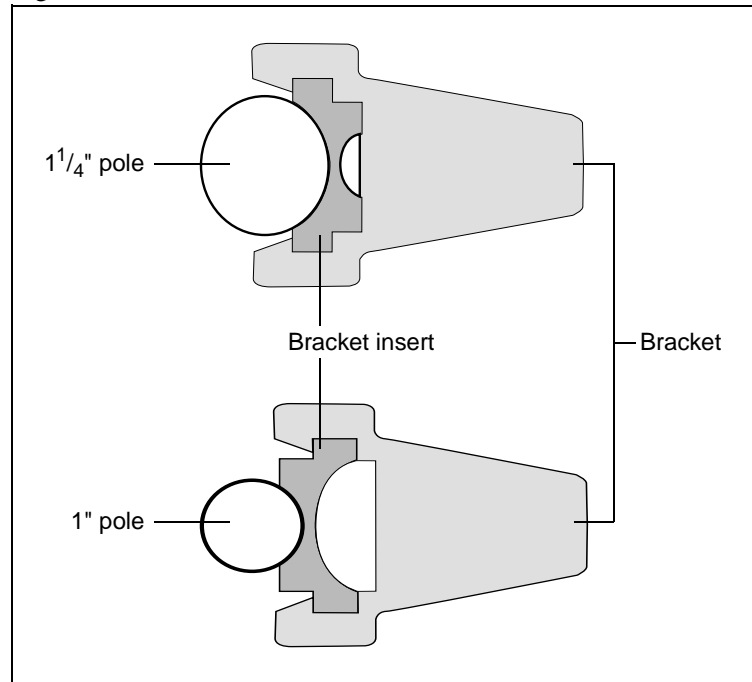

Figure 2.8 Receiver bracket insert
*Note* – If you are using a 1" diameter pole, flip the black insert around inside the bracket as shown in Figure 2.8.
Figure 2.8 shows details of the bracket insert.